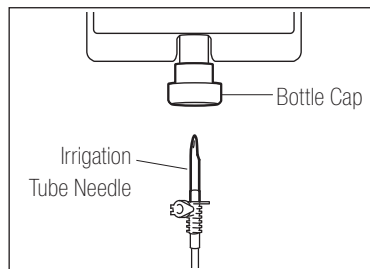

Fig.9
- 2) Insert the Irrigation Tube Needle into the Bottle Cap. (Fig.9)